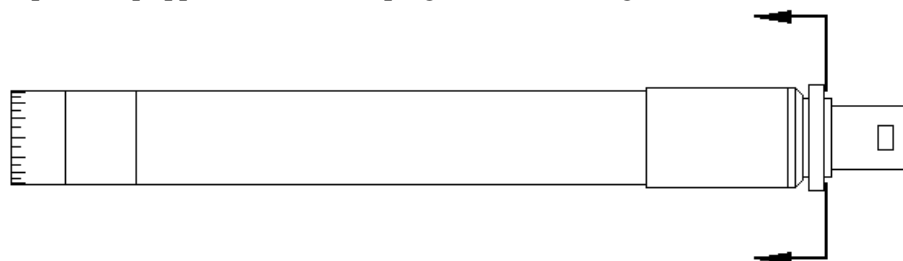

Fig. 5.1. Disconnecting of microphone preamplifier equipped with LEMO connector.
- do not apply excessive force to connect or disconnect LEMO connectors as these are equipped with facilities to avoid improper connection; the way to disconnect microphone preamplifier equipped with LEMO plug is shown on Fig. 5.1.